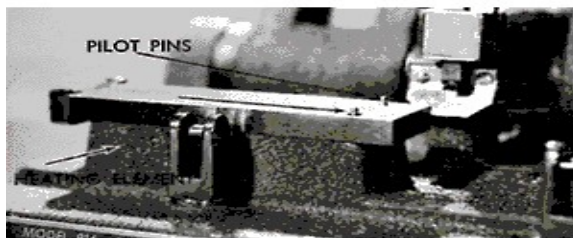

Figure 3
The two sets of blades - right and left - each with upper and lower sections. The ends of the blades have sharp cutting edges which trim off the film ends during the final welding stage. The lower blades have two sets of pilot pins which fit into corresponding holes in the upper blades to hold the film in place during splicing (Figures 3 & 4). These two sets of pins allow splicing with the perforations wither toward or away from the operator.
- The heating element, under the immovable left lower blade. Its function is to speed cement drying (Fig. 3)